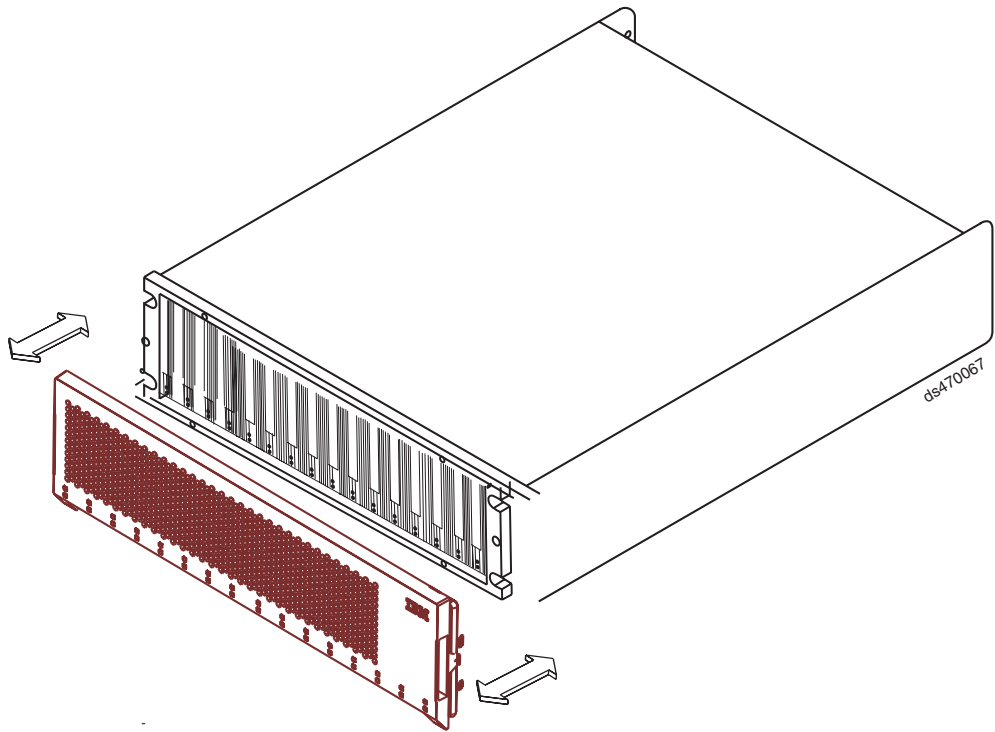

Figure 28. Installing a bezel
- Grasp the sides of the bezel and snap it onto the EXP810 chassis, as shown in Figure 28 on page 48. The bezel is self-aligned in the recessed opening in the front of the EXP810 chassis.